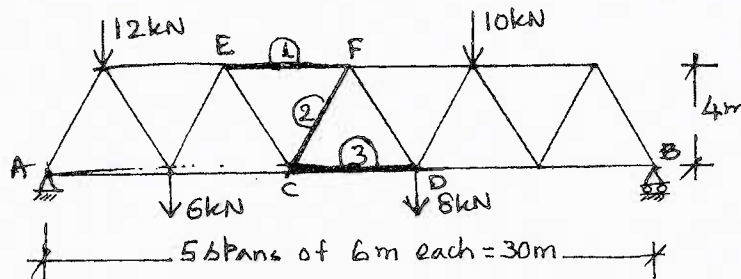

Fig.Q1(c)
- c. Find the forces in the numbered members of the loaded truss shown Fig.Q1(c) using method of sections. (09 Marks)